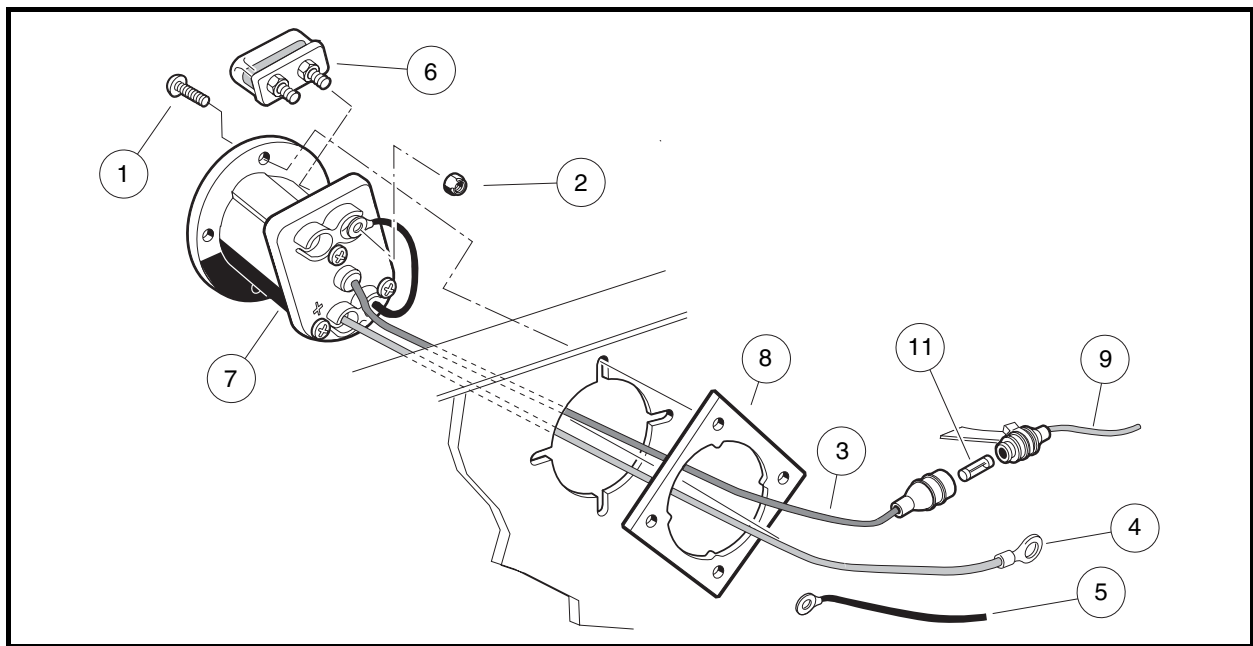

Figure 13-13 Charger Receptacle
4. Press the two retaining tabs (11) and remove the light from the center dash (**Figure 13-13, Page 13-17**).